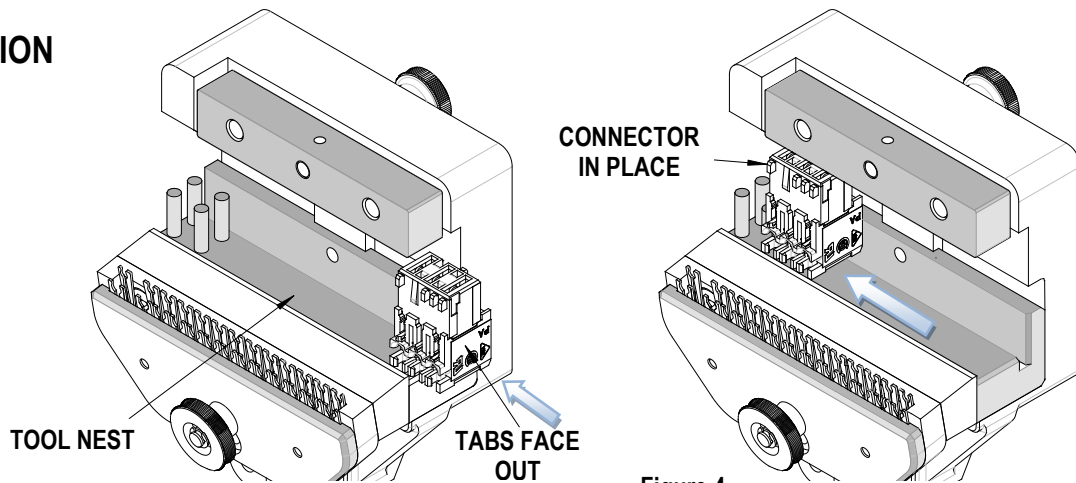

Figure 4
2. With the hand tool in the open position, load the connector in the tool. The tool nest is polarized to accept the connector in only one orientation (tabs facing outward) See Figure 4.